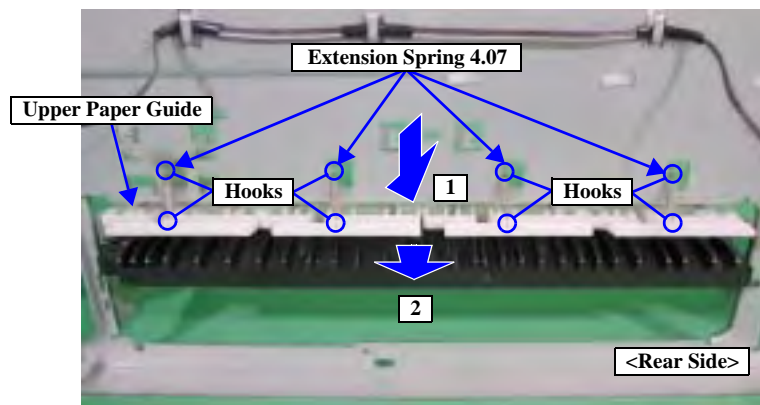

Figure 4-75. Upper Paper Guide Removal
3. Follow order shown in Figure 4-75 to remove Paper Guide from Printer Mechanism.